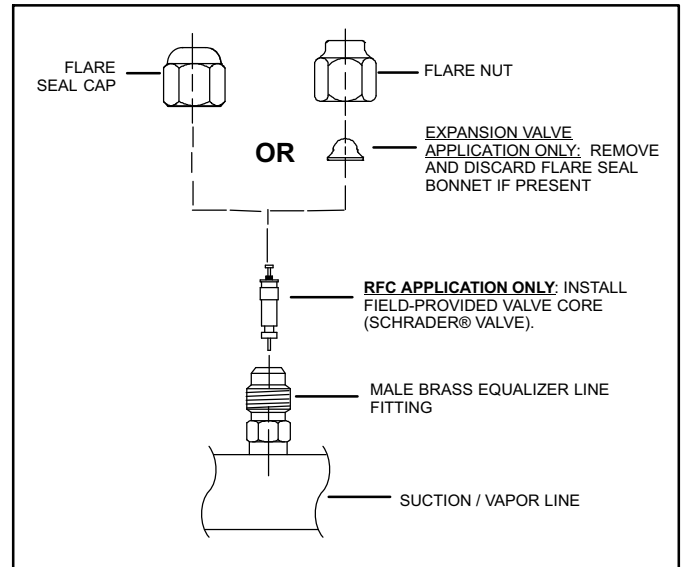

Figure 2. Male Equalizer Line Fitting Modifications
1. Expansion Valve Applications: Remove the copper flare seat bonnet if present from the male equalizer line fitting (see figure 2).
When removing the flare nut, ensure that the copper flare seal bonnet is removed as illustrated in figure 2.